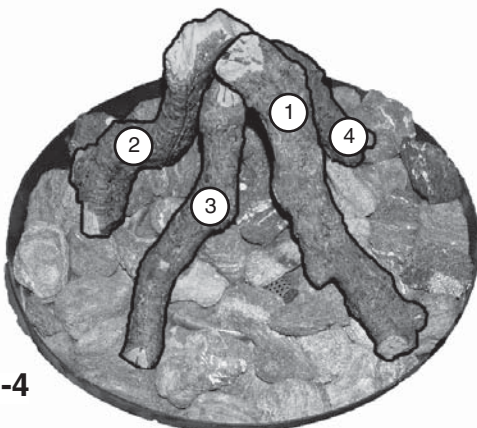

Fig. 11-4
1. Place the ends of three or four logs into the Volcanic Stones with their flat sides facing inward and their tops pointed upward. Then lean their other ends against each other at an angle in the center of the fire ring (see Fig. 11-4).